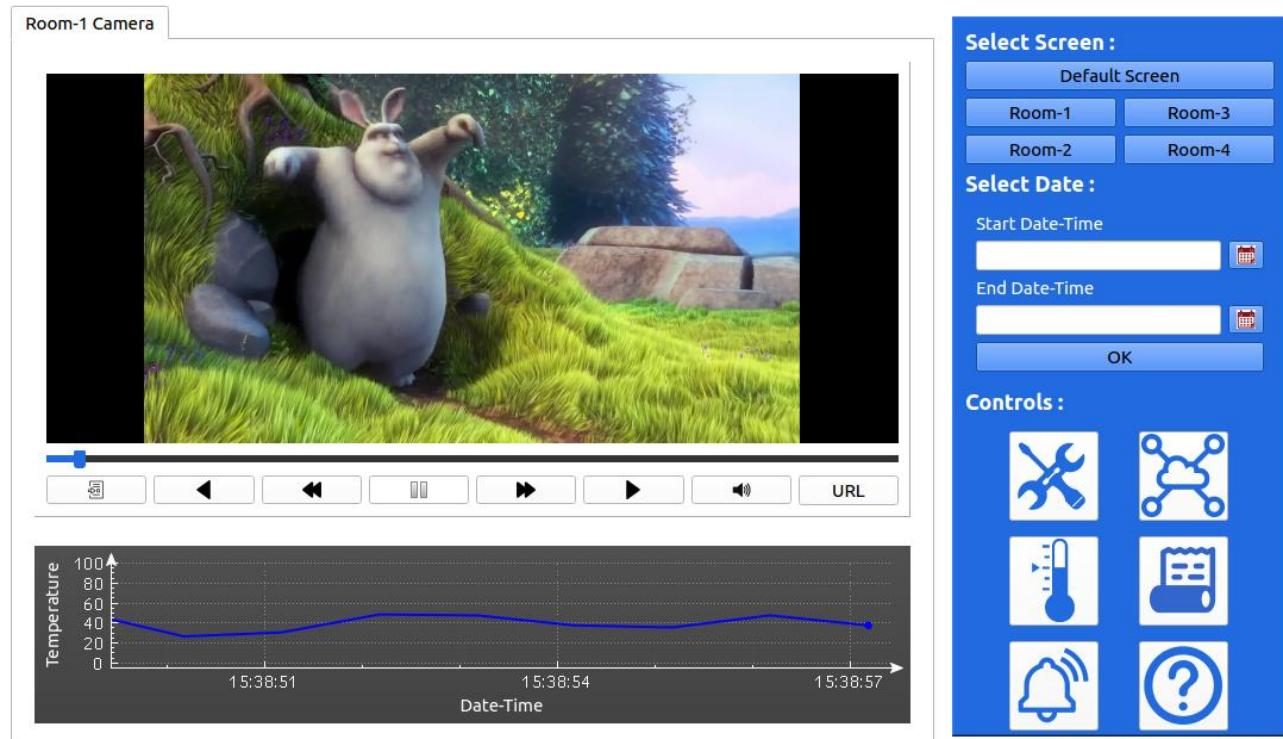

Figure 35 : Room-1 Screen
Clicking **Calendar** button just right after **start data-time** and **end date-time** text area. (Figure 35)
3. Temperature Setting: (Figure 35)